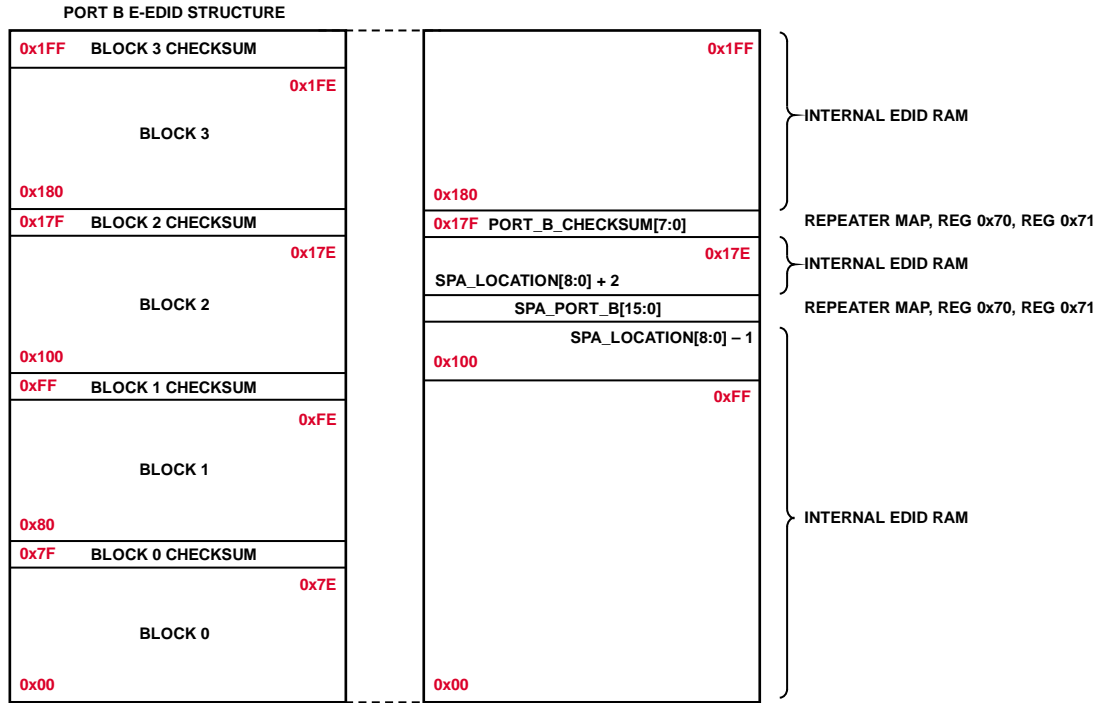

Figure 6. Port B E-EDID Structure and Mapping for SPA Located in E-EDID Block 2
- Figure 6—SPA located in E-EDID Block 2